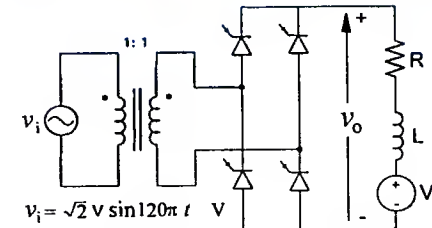

Figure 2: A full-wave controlled rectifier.
2. A single-phase, full-wave, phase-controlled rectifier supplies an inductive load as shown in Figure 2. For  $V = 240$  V,  $L = 14$  mH,  $R = 2 \Omega$ ,  $V_C = 100$  V and  $\alpha = 35^\circ$ ;